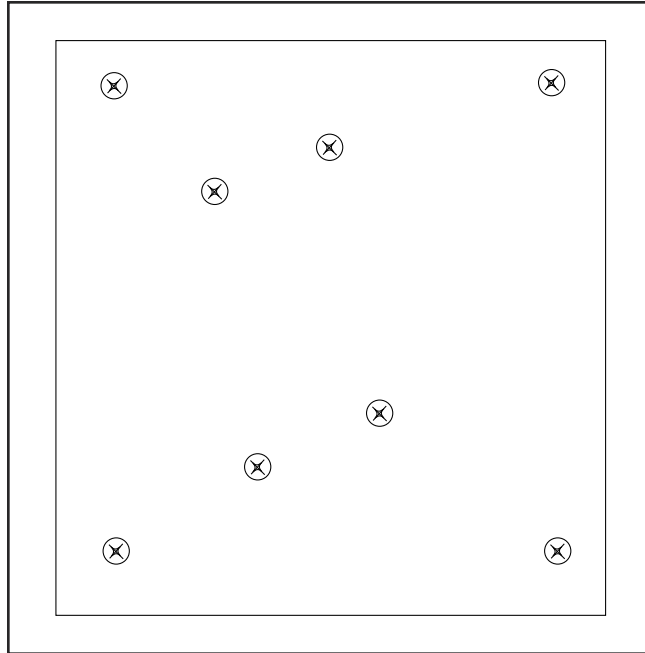

FIGURE F.12 - Control Board Mounting Locations may vary with different Code Machines.
- Carefully remove P.C. Board from mounting standoffs. See Figure F.12.